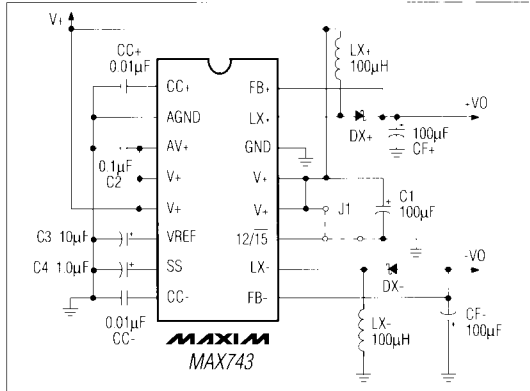
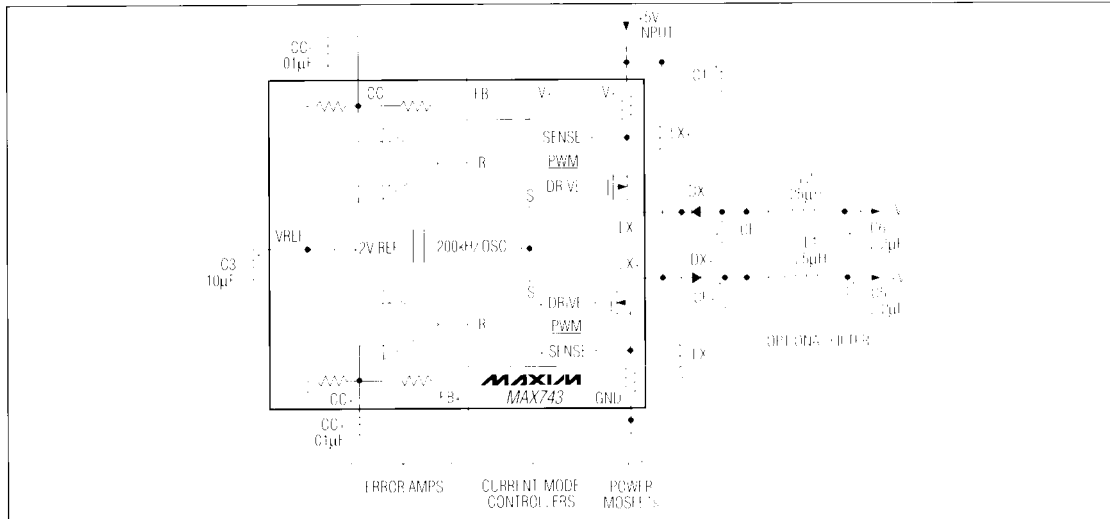
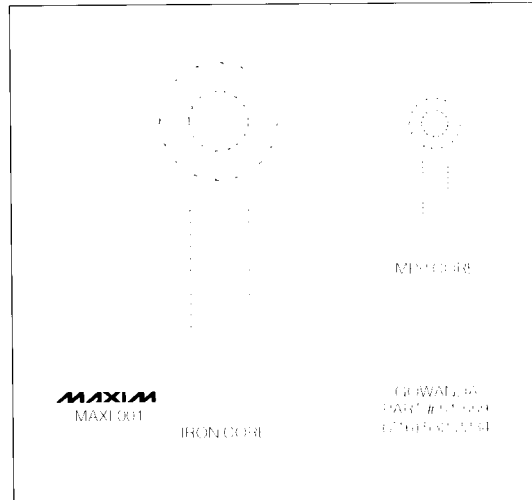
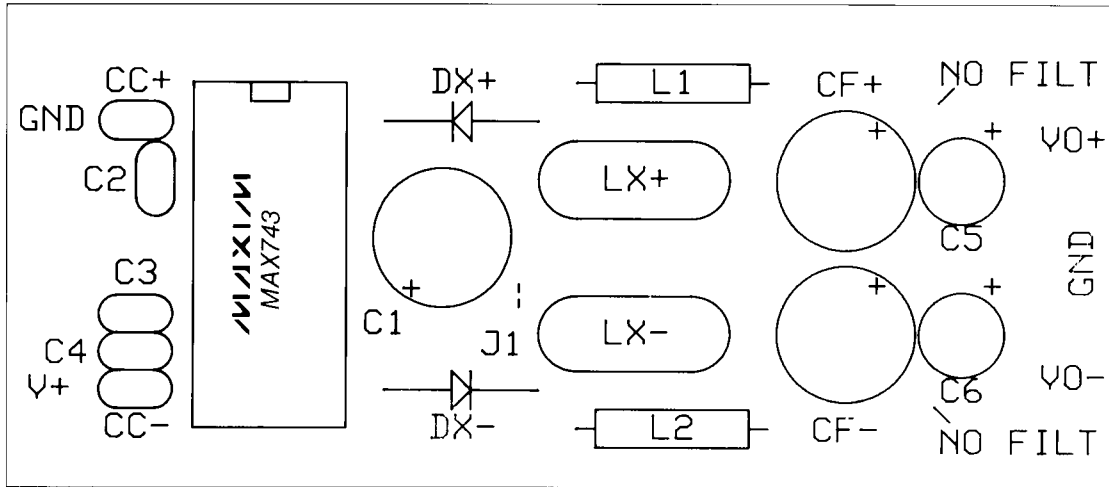

Figure 1. Basic Application Circuit
Figure 4. Functional Diagram with Optional Pi Filter
Figure 5 100 $\mu$ H Low-FEM Inductors for 3W Supplies (Actual Sizes) (See Table 1)
Figure 7. Component Placement Diagram for PC Layout of Figure 6
(Circuit of Figure 1, +4.5V < V+ < +5.5V, Note 1.)
(Circuit of Figure 1, V+ = +5.0V, 12/15 pin = 0V, ILOAD = 0, TA = TMIN to TMAX, unless otherwise noted.)
The circuit in Figure 1 has been tested at all line, load, output current, and temperature limits. Refer to the Electrical Characteristics table for guaranteed in-circuit specifications. Successful use of this circuit requires no component calculations.
The MAX743EVKIT Evaluation Kit demonstrates the output capabilities and noise performance of the MAX743 standard application circuit (Figure 1). The kit includes main switching components identical to those found in the high-volume production kit described on page 11 (MAX743CPEKIT). With a few quick modifications, the circuit can also serve as a low-noise test bed to evaluate other components, such as the miniature MPP toroid inductor of Figure 5. The kit includes optional Pi filters shown in the Functional Diagram (Figure 4), which reduce output noise to less than 2mVp-p.
**1. Build Circuit.** Assemble the PC board according to the component placement diagram of Figure 7 and the schematic of Figure 4. 3 resistors will be left over (and used for testing). The extra holes near LX and CF are options for nonstandard component sizes. Do not install jumper, J1, or C4.